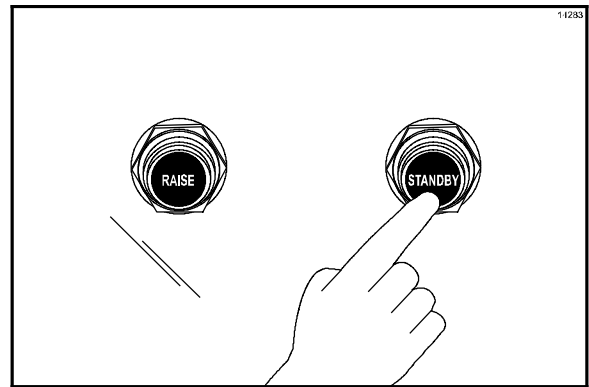

Figure 117
10. Press the Standby button to close the platen. (See Figure 117.)